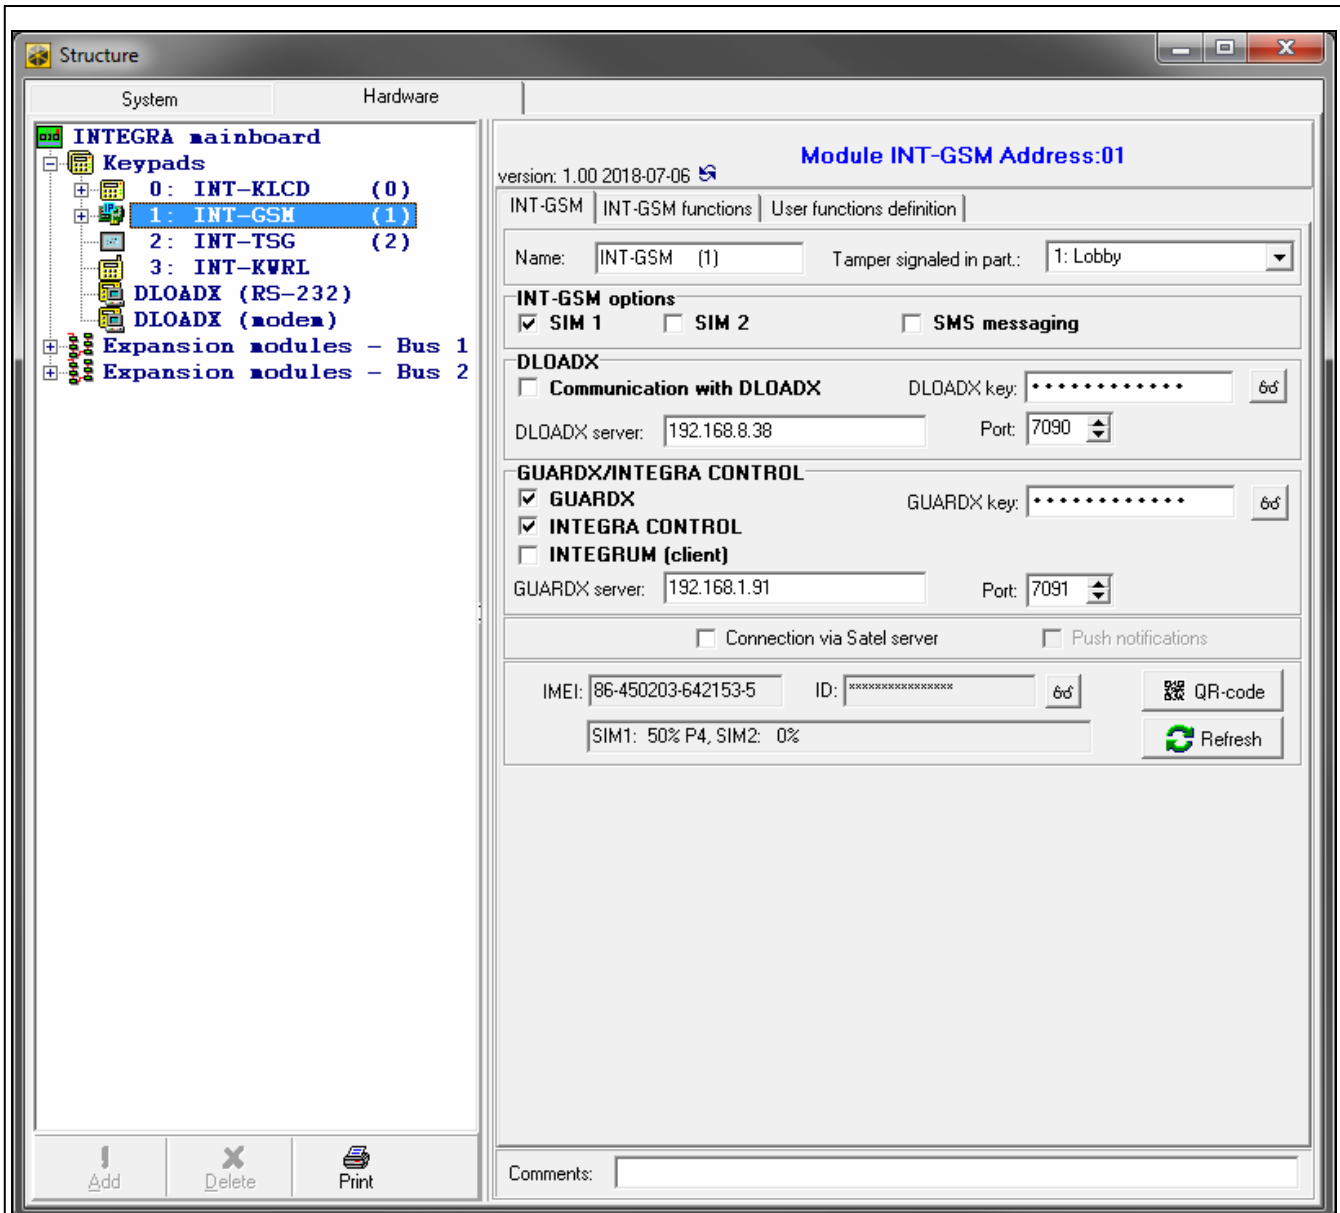

Fig. 9. DLOADX program: settings of the INT-GSM module connected directly to the INTEGRA / INTEGRA Plus control panel.
- DLOADX program: "Structure" window → "Hardware" tab → "Keypads" branch → [module name] (Fig. 9),